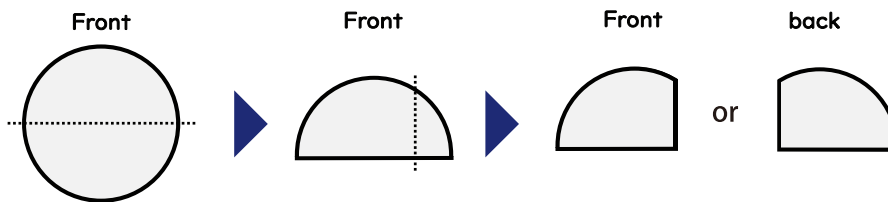

Fig5. Shaping of excised collagen membrane
- (1) Follow the procedure described above to fix and remove collagen membranes from insert frames.
- (2) Shape excised collagen membranes as shown in Figure 5 to introduce asymmetry allowing discrimination between front and back sides.